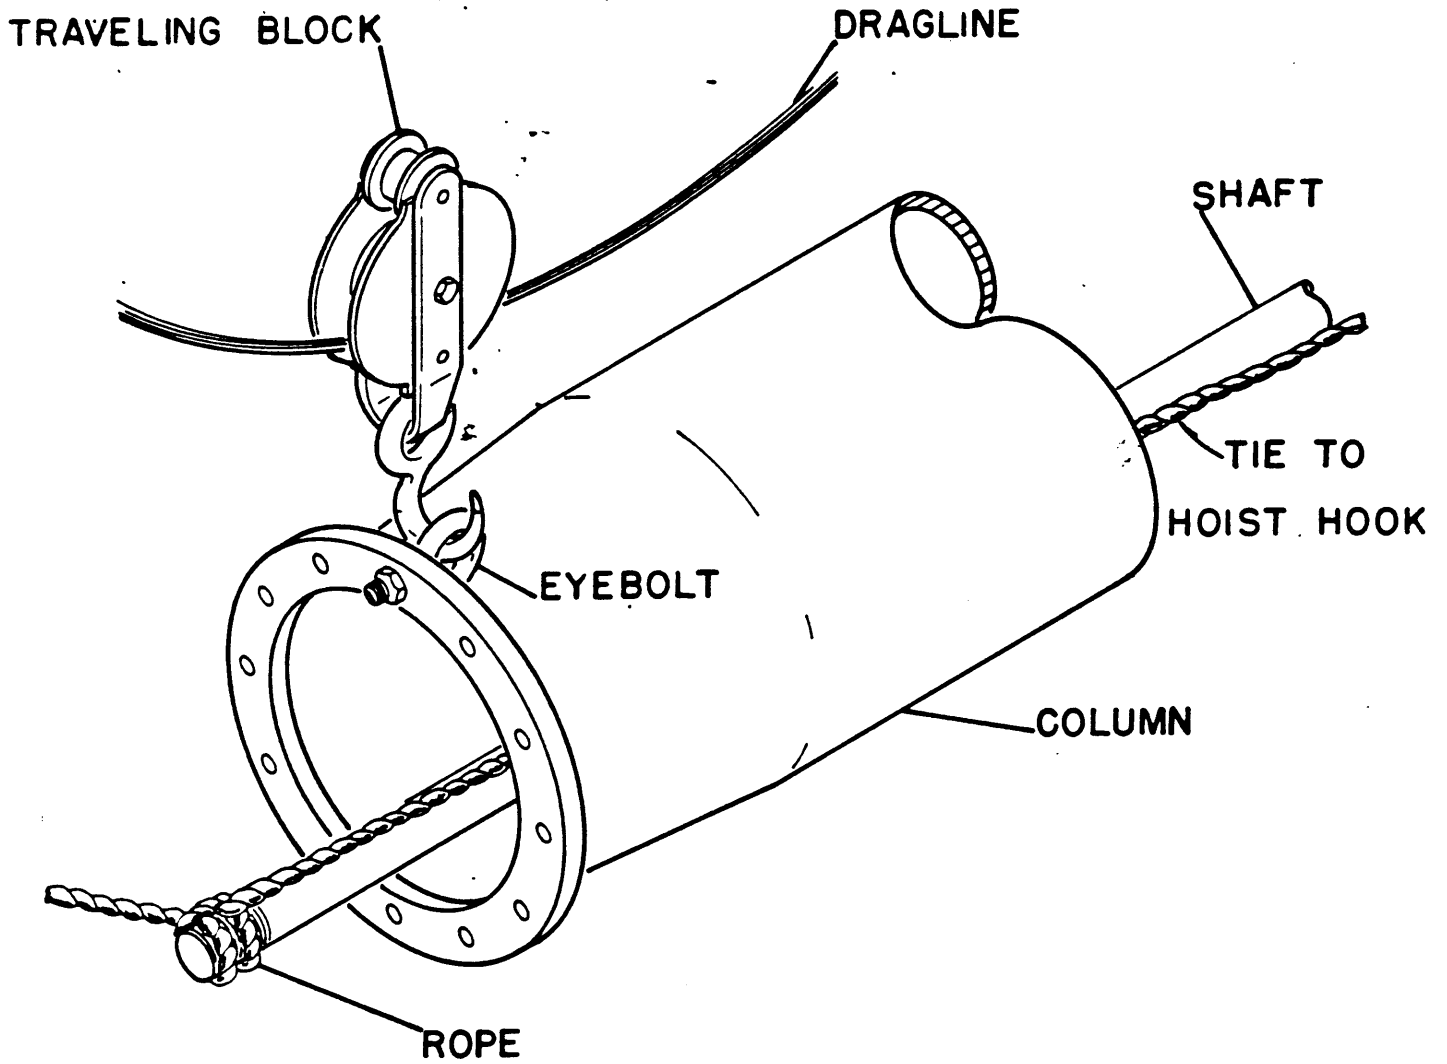

FIGURE. 4-2 PRODUCT LUBRICATION COLUMN HOISTING
A. Check that lineshaft (646) is not bent and insert into bottom column section.
C. Attach a sling to the eyebolts and to hoist hook. Tie bottom of lineshaft (646) to bottom column (644), using a clove hitch or double half hitch around the shaft in the threaded area. Pass the rope through the inside of the column and tie end of the rope to hoist hook. (See figure 4-2.)
E. Utilize the remaining tail rope to keep tension on the knots during hoisting. Lower end of column shall be guided by the dragline which is pulled by the hoist. A traveling block for the dragline shall be attached to lower end of column section by means of a clevis and a pin or eyebolt inserted in one of the bolt holes in the lower flange. (See figure 4-2.)
F. Hoist column section over bowl assembly, keeping tension on tail rope. With column in a vertical position, remove dragline and traveling block, lower column until lineshaft is properly aligned with threaded coupling (649).
G. KEYED SHAFTS - Install retainer (650) and insert key (730D) onto pumpshaft (675). Lower coupling sleeve (734) onto pumpshaft